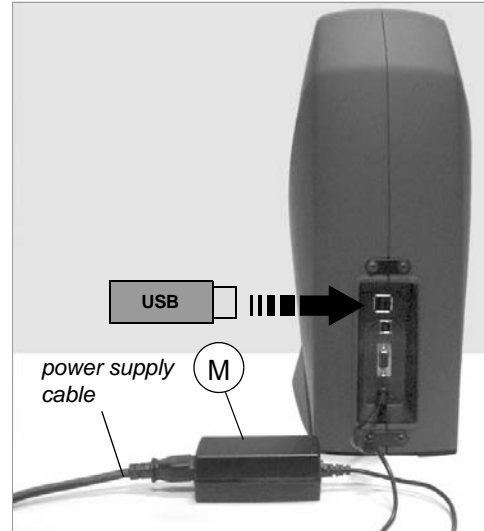

Fig. 9
Connect OPTIKA LIGHT to the power supply unit (M) and connect to the power source by means of the power supply cable (fig. 9).
Install the USB PEN in one of the 2 ports provided on the back of the device (fig. 9).